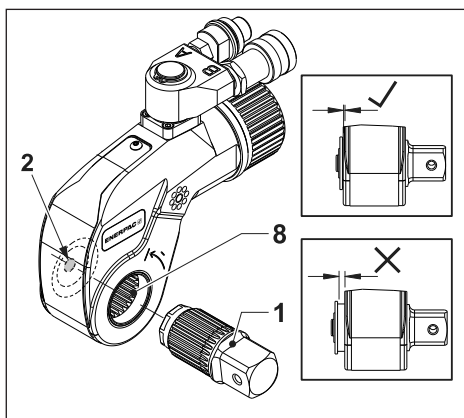

Fig. 3
3.2.1 To Attach the Drive Shaft (Fig. 3)
- Insert the drive shaft (1) into the ratchet (8).
- Press and hold the release button (2).
- Push and turn the drive shaft (1) until it locks into place. Then, release the release button (2).
3.2.2 To Remove the Drive Shaft (Fig. 3)
- Pull the drive shaft (1) until it is disengaged from the locking mechanism.
- Remove the drive shaft (1) completely from the ratchet (8).
3.3 To Select the Drive Direction (Fig. 3)